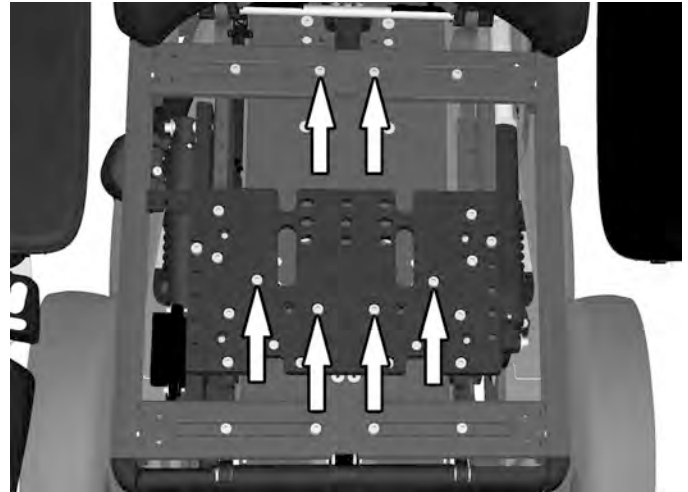
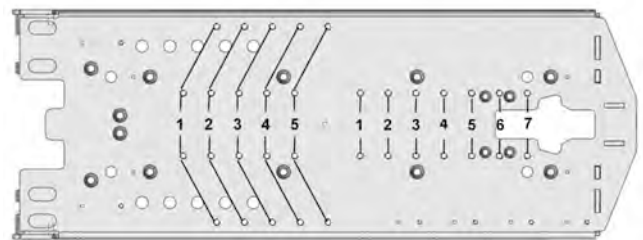

Figure 180. The seat is assembled with six screws.
Figure 181. The different assembling positions.
2. Assemble the six screws holding the seat. See fig. 180. The seat must be assembled in different hole patterns pending on the seat depth setting. See table and fig. 181.